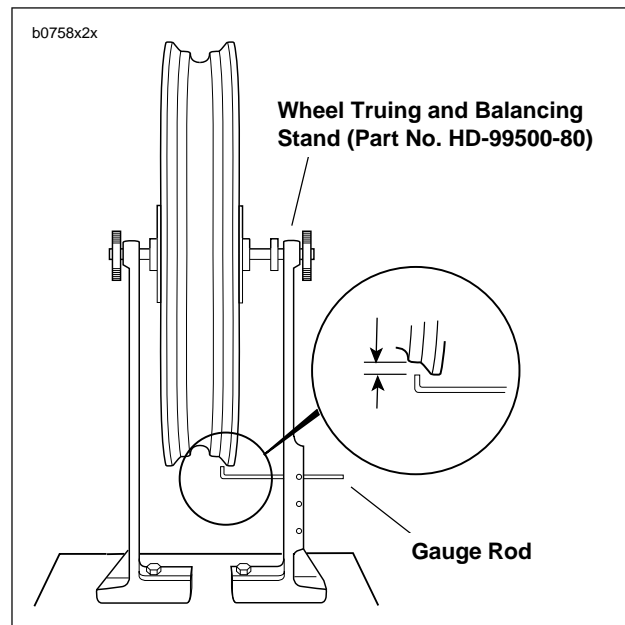

Figure 2-14. Checking Cast Rim Radial Runout
1. See Figure 2-14. Install truing arbor in wheel hub and place wheel in WHEEL TRUING AND BALANCING STAND (Part No. HD-99500-80).